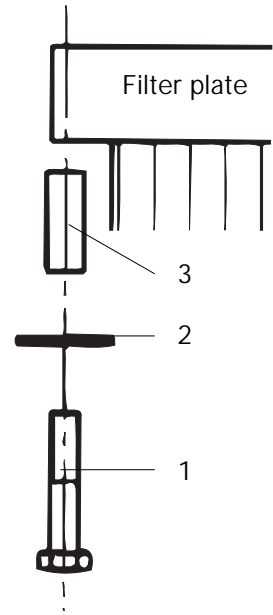

Figure 12
3. Unscrew the fixing screw (1 - Fig. 12, page 19) only so much that the sealing strip is not compressed.
4. Release the other side of the filter plate, remove the screw (1 - Fig. 12, page 19), the washer (2 - Fig. 12, page 19, and spacer (3 - Fig. 12, page 19).
1. Coat the front end of the screw (1 - Fig. 12) with sealing compound. If the screw coating is worn it must be replaced.
2. Place the washer (2 - Fig. 12), and spacer (3 - Fig. 12) on the screw shank.